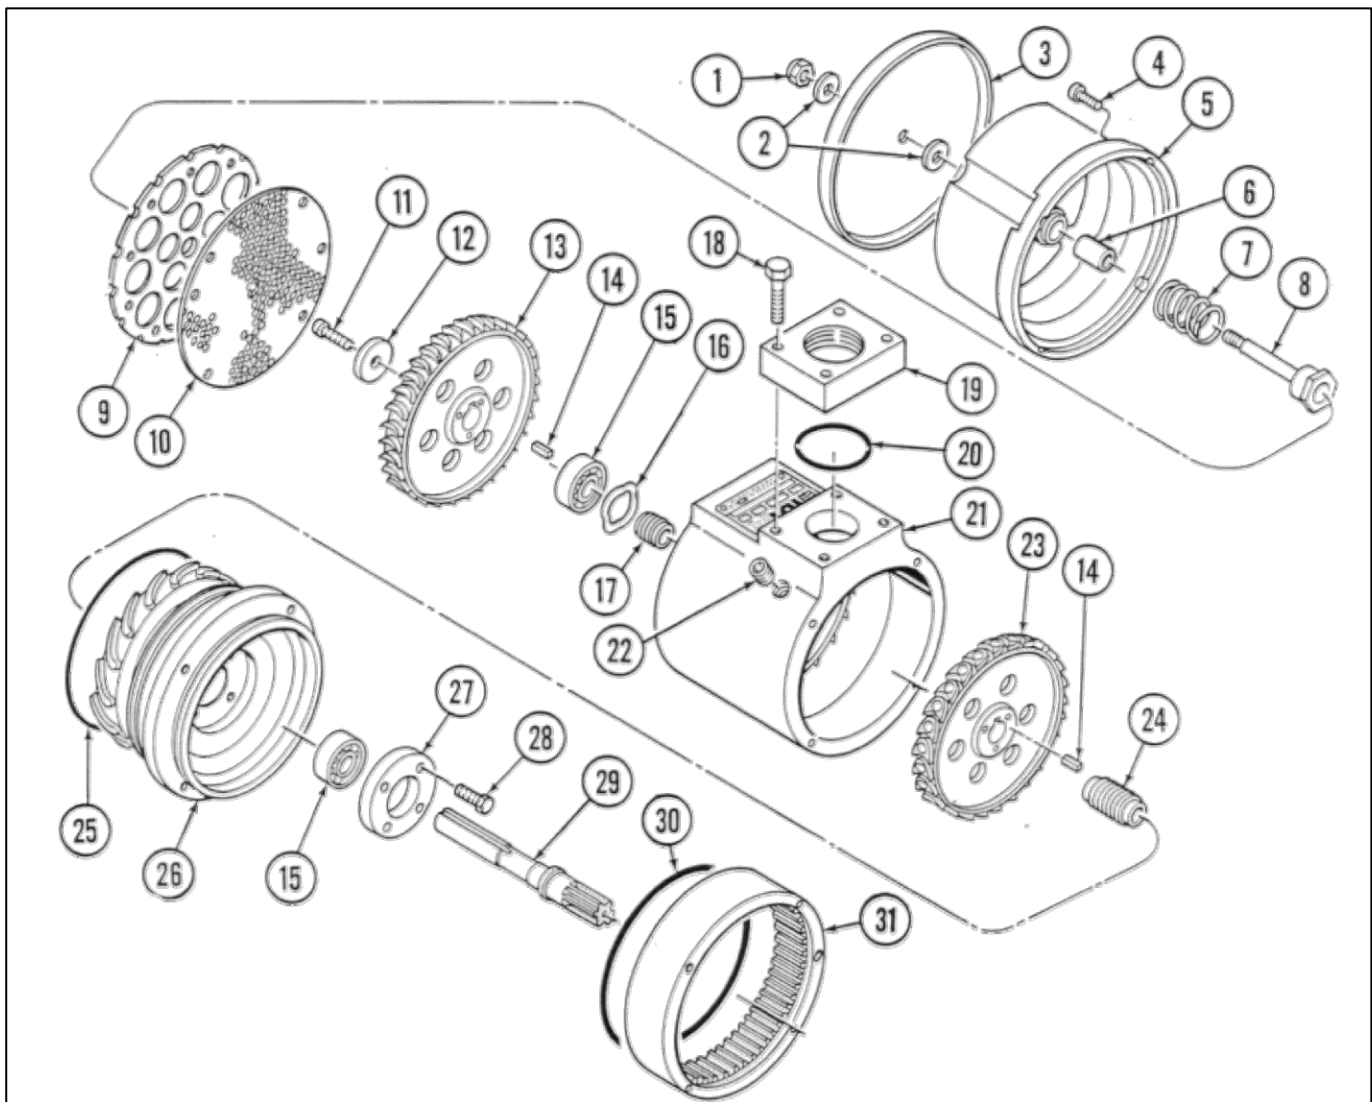

Figure 3. Turbine Housing Assembly
The Turbine housing assembly, refer to figure 3, consists of a stage one (23) and a stage two (13) turbine rotor mounted on sun gear shaft (29). The front bearing (15) is secured by a retainer plate (27) and the aft bearing is pre-load by a spring washer (16).